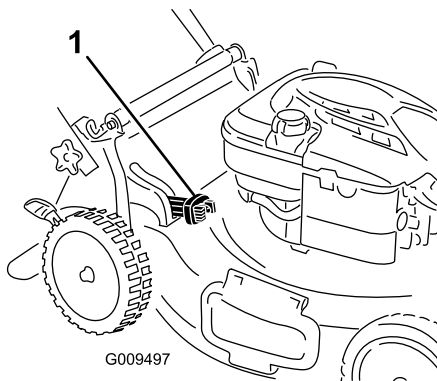

Figure 14
- For bagging the grass and leaf clippings, press the button on the bag-on-demand lever and move the lever forward until the button on the lever pops up (Figure 14)
**Important:** For proper operation, remove any grass clippings and debris from the bag-on-demand door and the surrounding opening (Figure 14) before you move the bag-on-demand lever from one position to another.